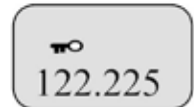

Figure 6
2. To Disable Key Lock, repeat the process. (See Figure 6)